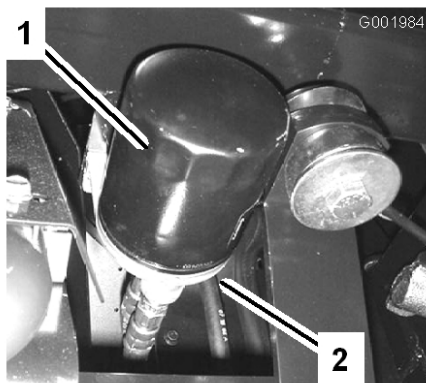

Figure 46
- Remove the oil filter (Figure 46).
- Install the replacement oil filter to the filter adapter. Turn the oil filter clockwise until the rubber gasket contacts the filter adapter, then tighten the filter an additional 1/2 turn (Figure 46).